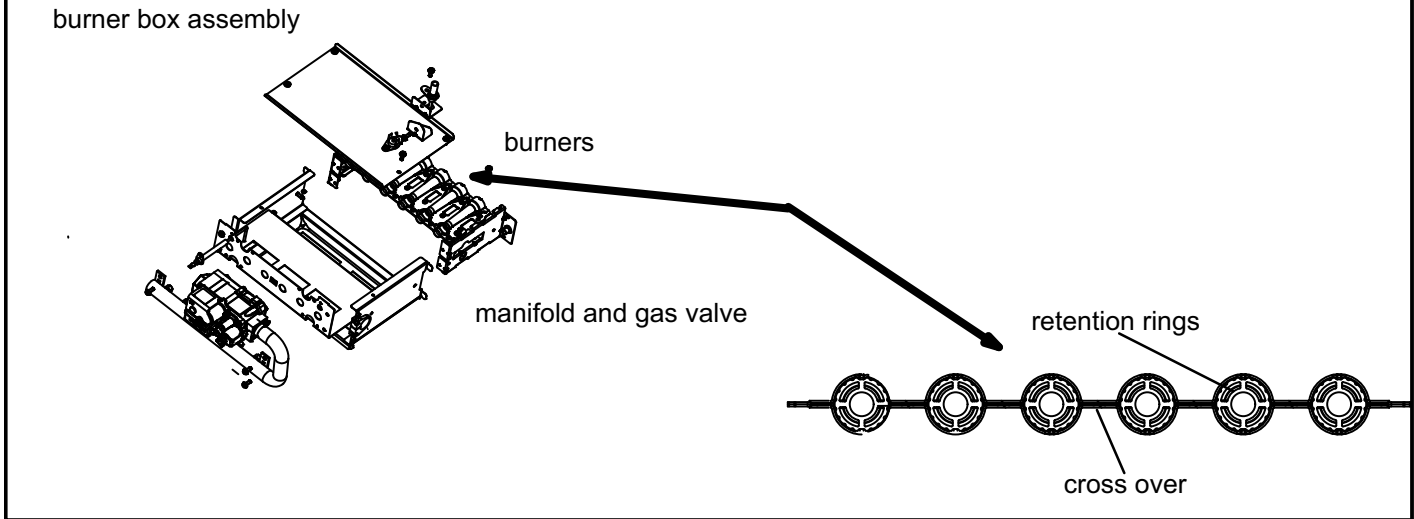

FIGURE 24
- 6- To clean burners, run a vacuum cleaner with a soft brush attachment over the face of burners. Visually inspect inside the burners and crossovers for any blockage caused by foreign matter. Remove any blockage. Figure 24 shows burner detail.